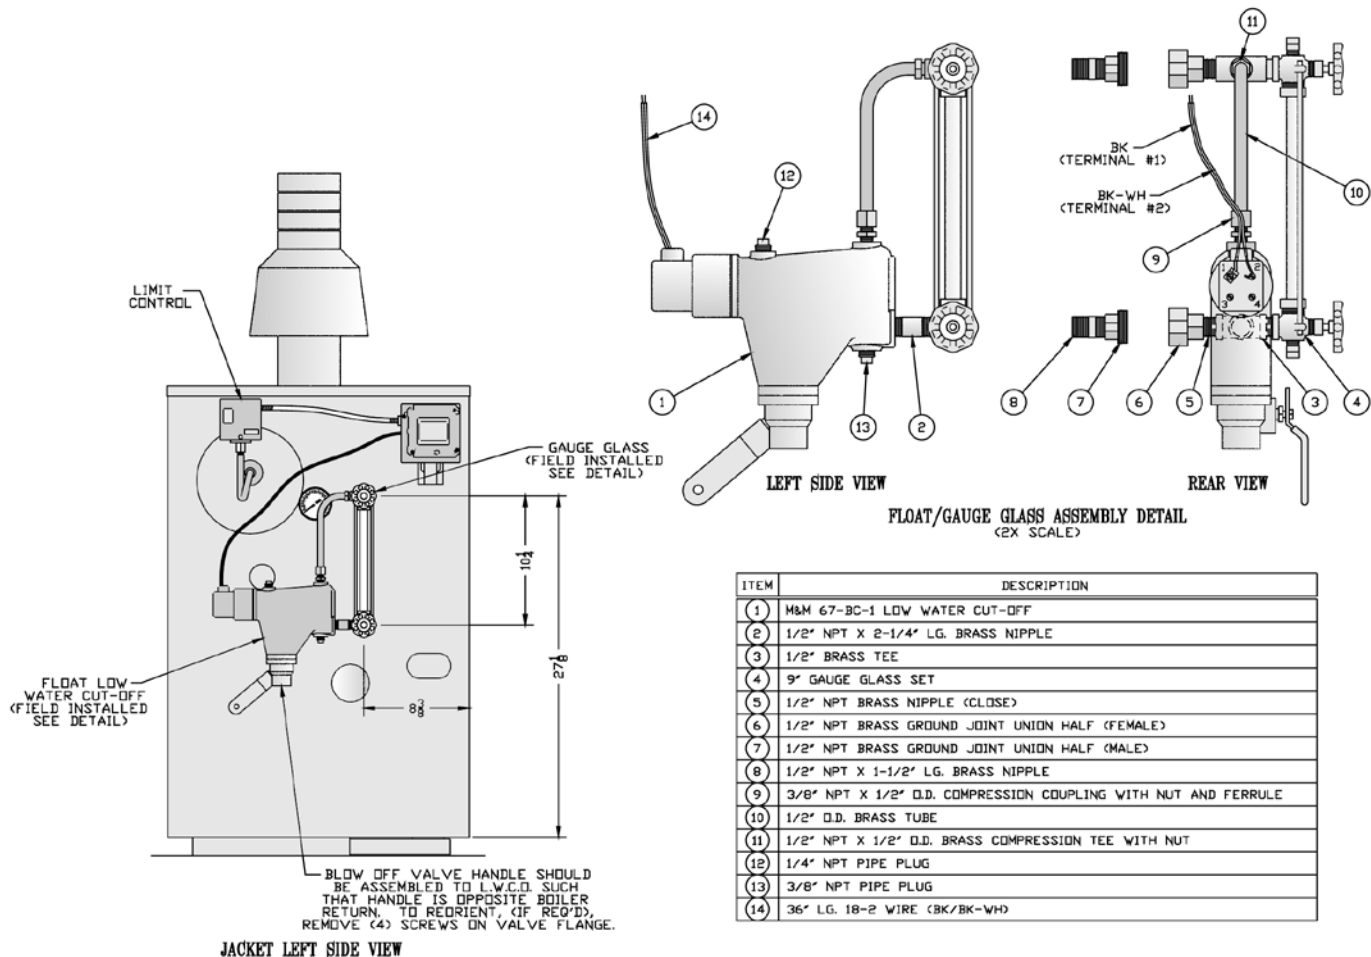

Figure 5: Assembly Diagram for McDonnell & Miller 67 Low Water Cutoff
- B. **Boiler equipped with McDonnell & Miller 67 Low Water Cutoff Only.** Assemble gauge glass and low water cutoff as shown in Figure 5. Follow instructions packed with low water cutoff.